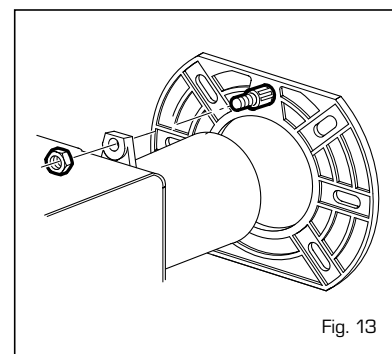

Fig. 13
- open the cover, which is held in place by a screw, and remove the heater cables (1 fig. 13/a) protected by a heat resistant sheath; remove the fairlead and pass the cables through the hole.
- loosen the union (2 fig. 13/a) and remove the four screws which fasten the collar (3 fig. 13/a) to the burner.